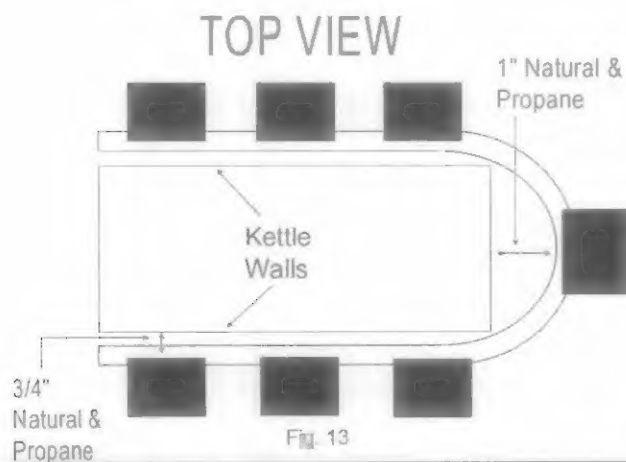

Fig. 13
- 1) Proper alignment of all burner targets should be ¾ in. between the top edge of the ceramic targets and the wall of the frypot. See Figure 13